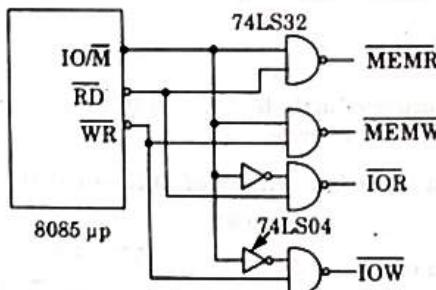

Fig. 1.18.1. Generation of Read/Write control signals for memory and I/O.
3. Fig. 1.18.1 shows that four different control signals are generated by combining the signals \overline{RD} , \overline{WR} and IO/M .
4. The signal IO/\overline{M} goes low for the memory operation. This signal is ANDed with \overline{RD} and \overline{WR} signals by using the 74LS32 quadruple two-input OR gates, as shown in Fig. 1.18.1.
6. When the IO/\overline{M} signal goes high, it indicates the peripheral input/output operation. Fig. 1.18.1 shows that this signal is complemented using the hex inverter 74LS04 and ANDed with the \overline{RD} and \overline{WR} signals to generate IOR (I/O read) and IOW (I/O write) control signals.